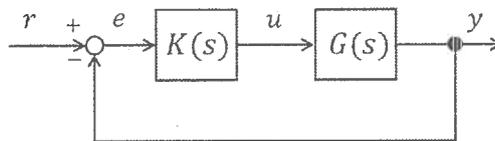

Fig. 1 Feedback system 1
1. Consider the feedback system in Fig.1, where $K(s) = \frac{\beta}{\alpha+s}$ and $G(s) = \frac{1}{s}$. α and β are nonnegative real numbers.